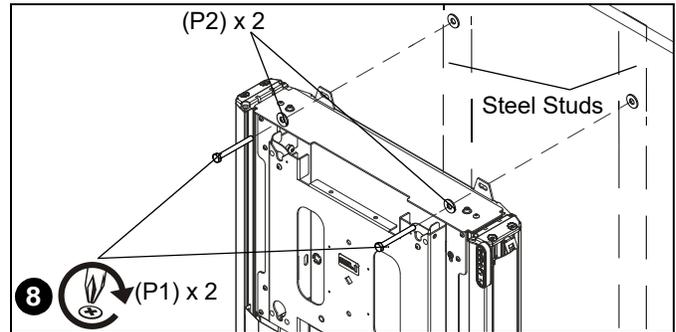

Figure 18
7. Place mount over anchors and align mounting holes on mount with holes in anchors. (See Figure 18)
8. Insert two 1/4-20 x 2 1/2" hex head tapping bolts (P1) through two 1/4" washers (P2), corresponding mounting holes on mount and into anchors (P3) and tighten until flush against mount. DO NOT overtighten! (See Figure 18)